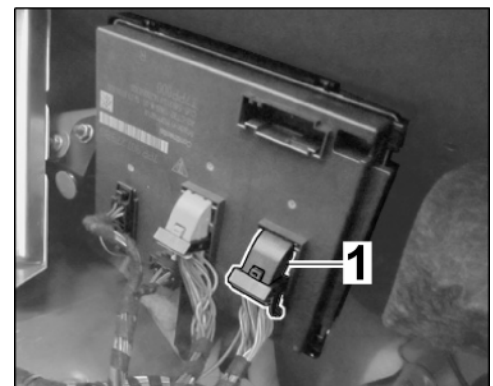

Figure 15
- 2.4.1 Disconnect the electric plug connection from the rear-end electronics control unit. ⇒ *Figure 15*
2.4.4 Plug the electric plug connection into the rear-end electronics control unit. ⇒ *Figure 15*